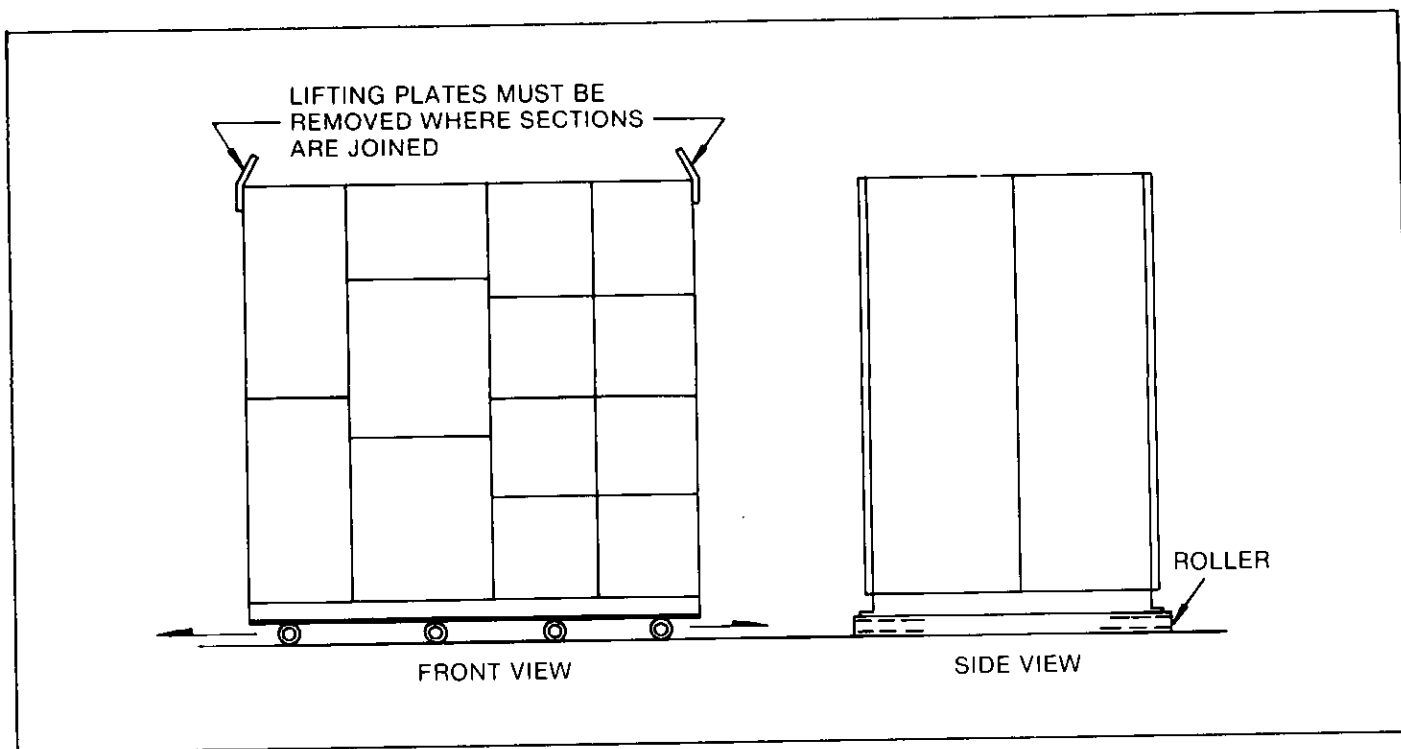

Fig. 2-8. Method of rolling equipment into place
8. While carefully pushing the switchgear to its final site position, the rollers that are freed from the rear of the switchgear are then repositioned at the forward end. This procedure should be continued until the switchgear is in its final location. See Fig. 2-8.